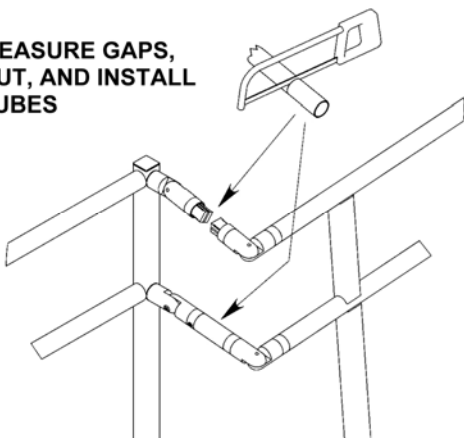

FIG 37
- vi) Cut round tube to the length measured (FIG 37).